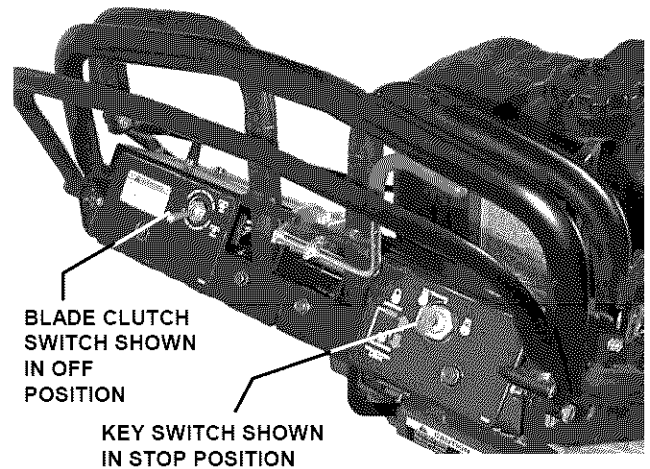

FIGURE 3.6
- Pull the Blade Clutch Switch rearward to the **OFF** position. See Figure 3.6.
- Place the Transmission Shift Lever into the NEUTRAL (N) position.
- Stop engine. Turn key switch to "Stop" position. Remove key. See Figure 3.6.